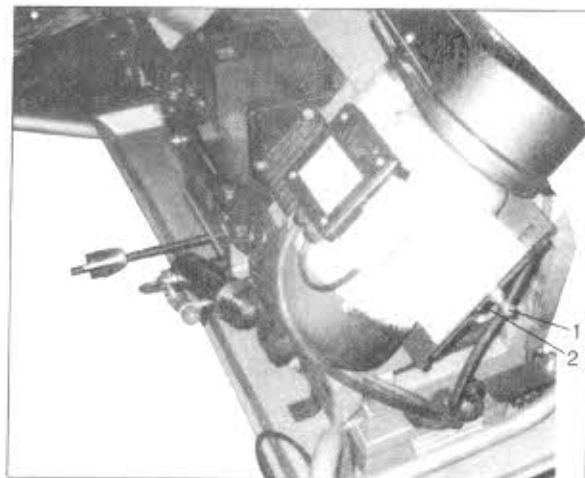

Fig.5
2. Loose motor plate lock bolt (1, Fig.5).
3. Loose motor plate slide bolt (2) until belt can be moved on the pulleys.
5. Tighten motor plate slide bolt (2) to re-tension belt.
6. Tighten motor plate lock bolt (1).